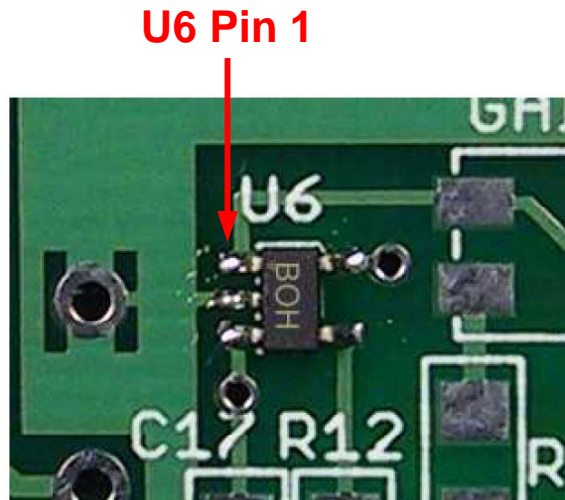

Figure 11. U6 Location
- ❑ Remove U6, AD8001 from the active component compartment. This IC is marked **HOB**. Position it over the pads of U6 as shown in **Figure 11** and tack down pin 1. Make sure all of the pins are aligned with the pads and solder pin 4, diagonally opposite pin 1. Solder the remaining pins.